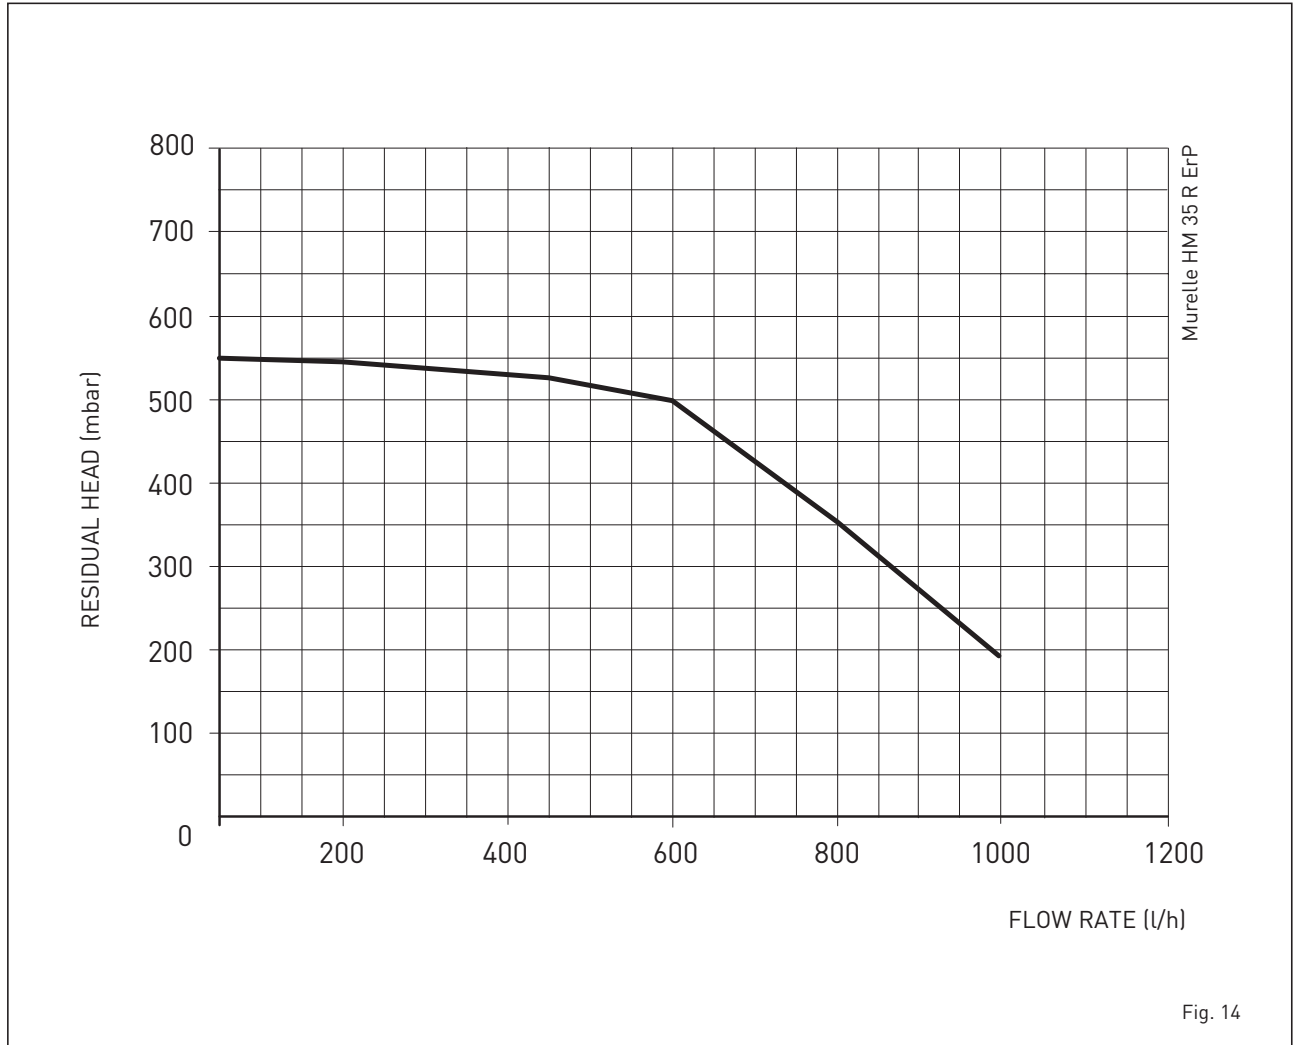

Fig. 14
3.8 HEAD AVAILABLE TO SYSTEM (fig. 14)
shown as a function of rate of flow in the graph in fig. 14. The speed of the modulating pump system is set as default (installation parameter **PAR 13 = Au**).